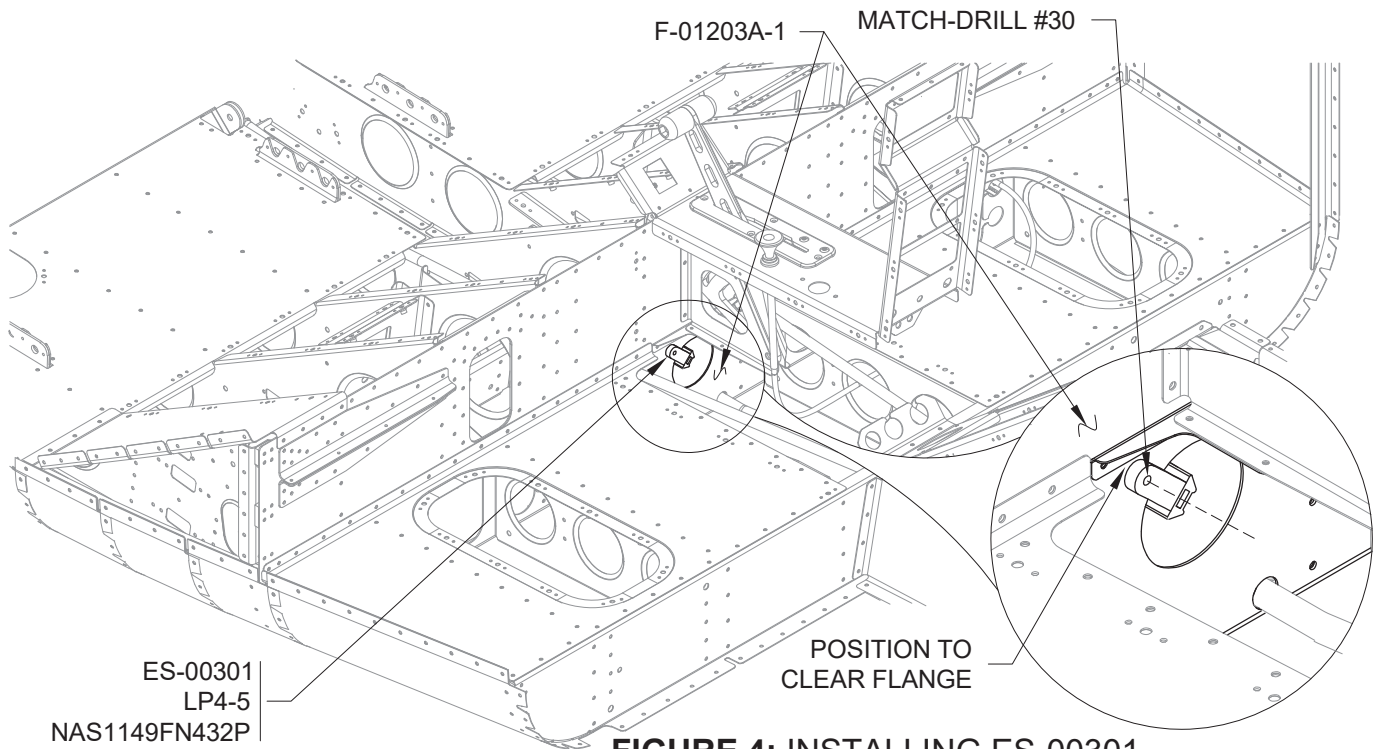

FIGURE 4: INSTALLING ES-00301
Step 2: Install both ES CPU FAN's using the hardware called out in Figure 4. Place the left side fan upside down, so that the wires exit the top of the fan body. Install the grounding ring terminal (on the black wire) under the nut on the nearest screw holding the fan in place. The red wire will be connected later in this section.
Step 10: Position, match-drill, and rivet the ES-00301 on the F-01203A-1 as shown in Figure 4.